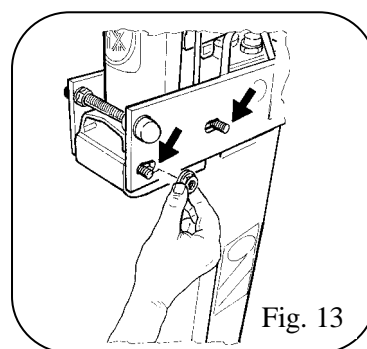

Fig. 13
- Check that the control levers (see fig. 13) are in a central neutral position.
- Loosen the two M14 nuts with the special 22 spanner supplied. (Fig. 13)